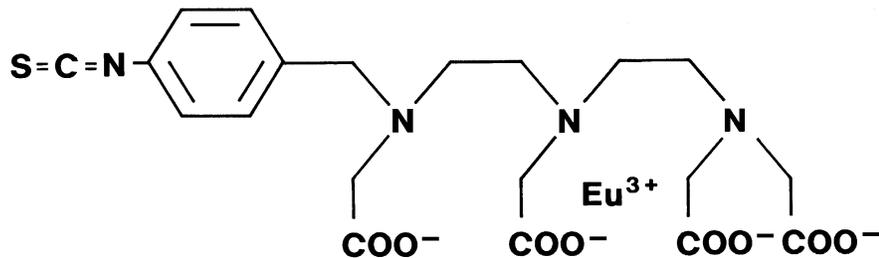
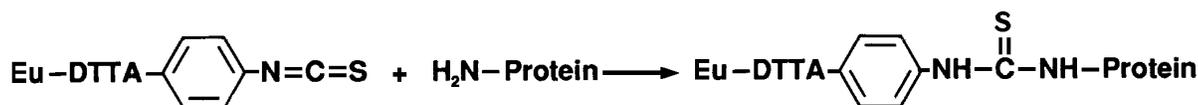

Figure 1: Chemical structure of the Eu-Labelling reagent, N¹-(p-isothiocyanatobenzyl)-diethylene-triamine-N¹,N²,N³,N³-tetraacetic acid chelated with Eu³⁺.
Figure 2: The conjugation reaction between the aromatic isothiocyanate group of the labelling reagent and an amino group of a protein.
The Labelling reagent is the Eu-chelate of N¹-(p-isothiocyanatobenzyl)-diethylenetriamine-N¹,N²,N³,N³-tetraacetic acid (DTTA) (Figure 1) (3). The DTTA group forms a stable complex with Eu^{3+} and the isothiocyanate-group reacts with primary aliphatic amino group on the protein at alkaline pH to form a stable, covalent thiourea bond (Figure 2). The high water solubility and the stability of the chelate, in addition to the mild coupling conditions of the isothiocyanate reaction, enable easy labelling of proteins.